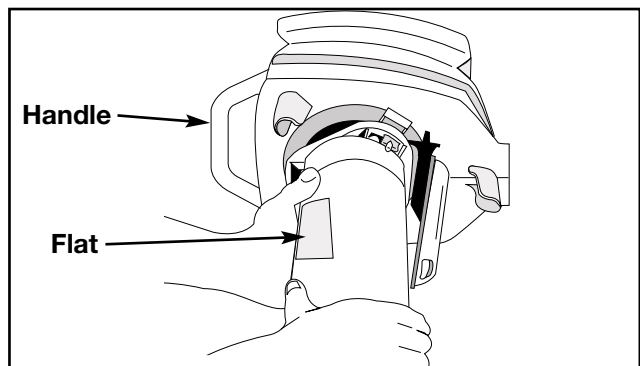

Fig. 13
NOTE: The flat on the upper tube should face the handle as you install the tube (Fig. 13).
1. Grasp the assembled tube **firmly** with both hands. Turn the tube/adapter **clockwise** as far as possible to the end of the grooves until it snaps into the detent and locks (Fig. 13).
NOTE: When the tube is installed correctly, the flat on the upper tube faces the handle on the blower/vac (Fig. 13).